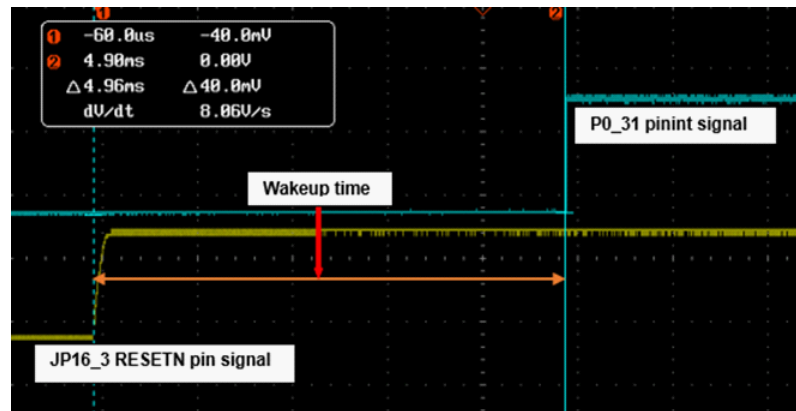
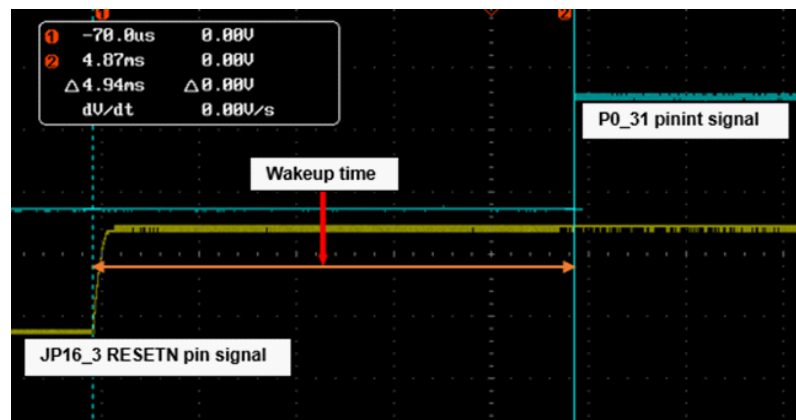

Figure 8. Wake-up time measurement for deep power-down using RESETN pin
Figure 9. Wake-up time measurement for full deep power-down using RESETN pin
- For wake-up time from deep power-down and full deep power-down modes, measure time passed on the oscilloscope between the RESETN pin going high to P0\_31 pin going high as shown in Figure 8 and Figure 9.